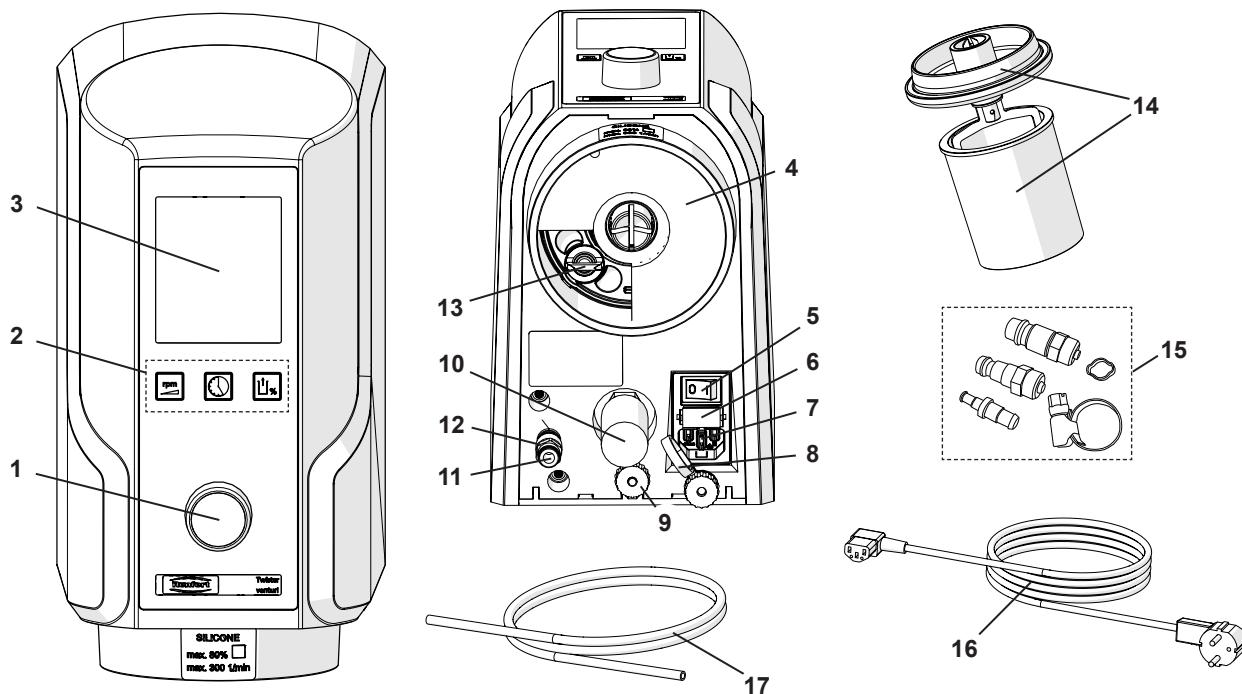

Fig. 1
- ⇒ Plug the compressed air hose (17) into the tube attachment on the compressed air connection (11) as far as it will go. There will be a slight resistance to overcome when attaching.
- ⇒ Select the proper coupling from the set (15, Fig. 1) provided and install it on the other hose end to connect it to the compressed air system.